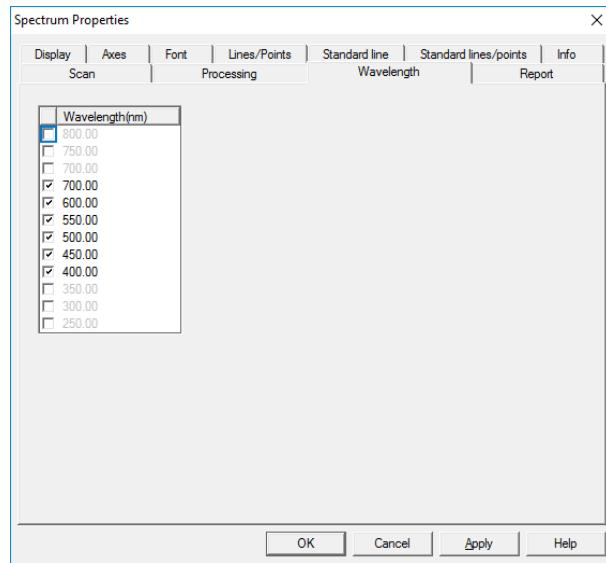

Fig. 5-76
- (1) On the data processing window shown in Fig. 5-71, click the  (Properties) button on the Data Process toolbar. The Spectrum Properties window will appear. In this window, click the Wavelength tab. A tab page as shown in Fig. 5-76 will appear to indicate the presently specified wavelengths.